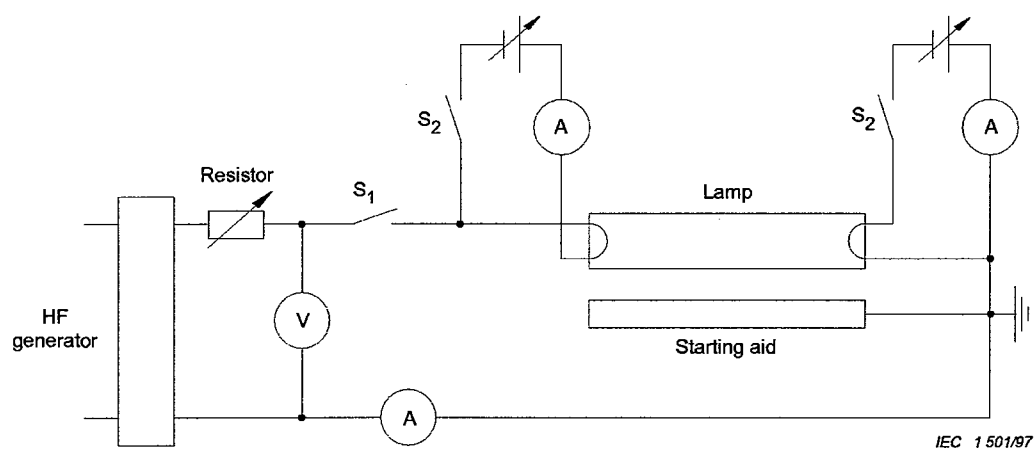

Figure A.4 – Circuit diagram for starting test for lamps with preheated cathodes for operation on high frequency
- figure A.4 for lamps with preheated cathodes;